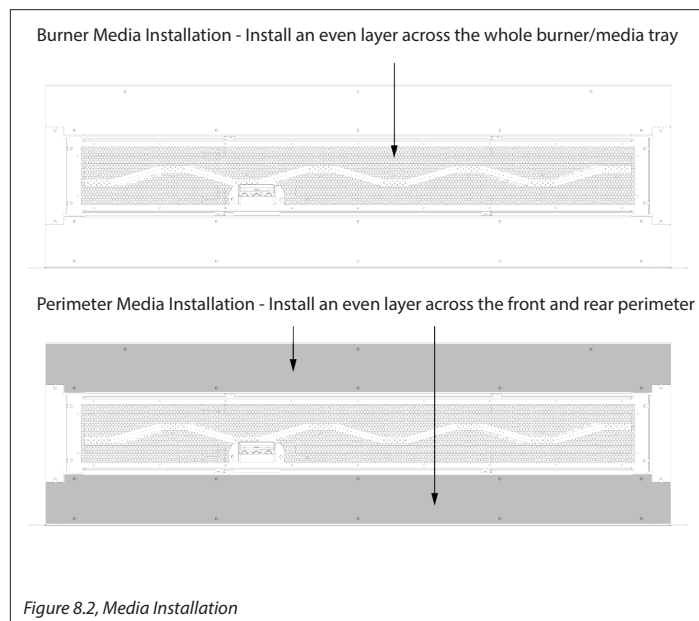

Figure 8.2, Media Installation
1. Install an even layer of your chosen media across the whole burner. See Figure 8.2.
1. Install an even layer of media across the front and rear perimeter. See Figure 8.2.